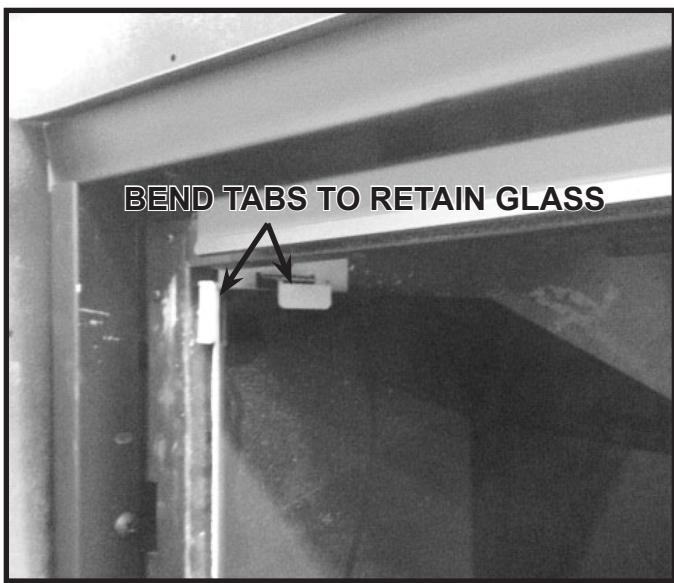

Figure 10. Left Refractory Tab
- Bend tabs over to retain glass. See Figure 10.